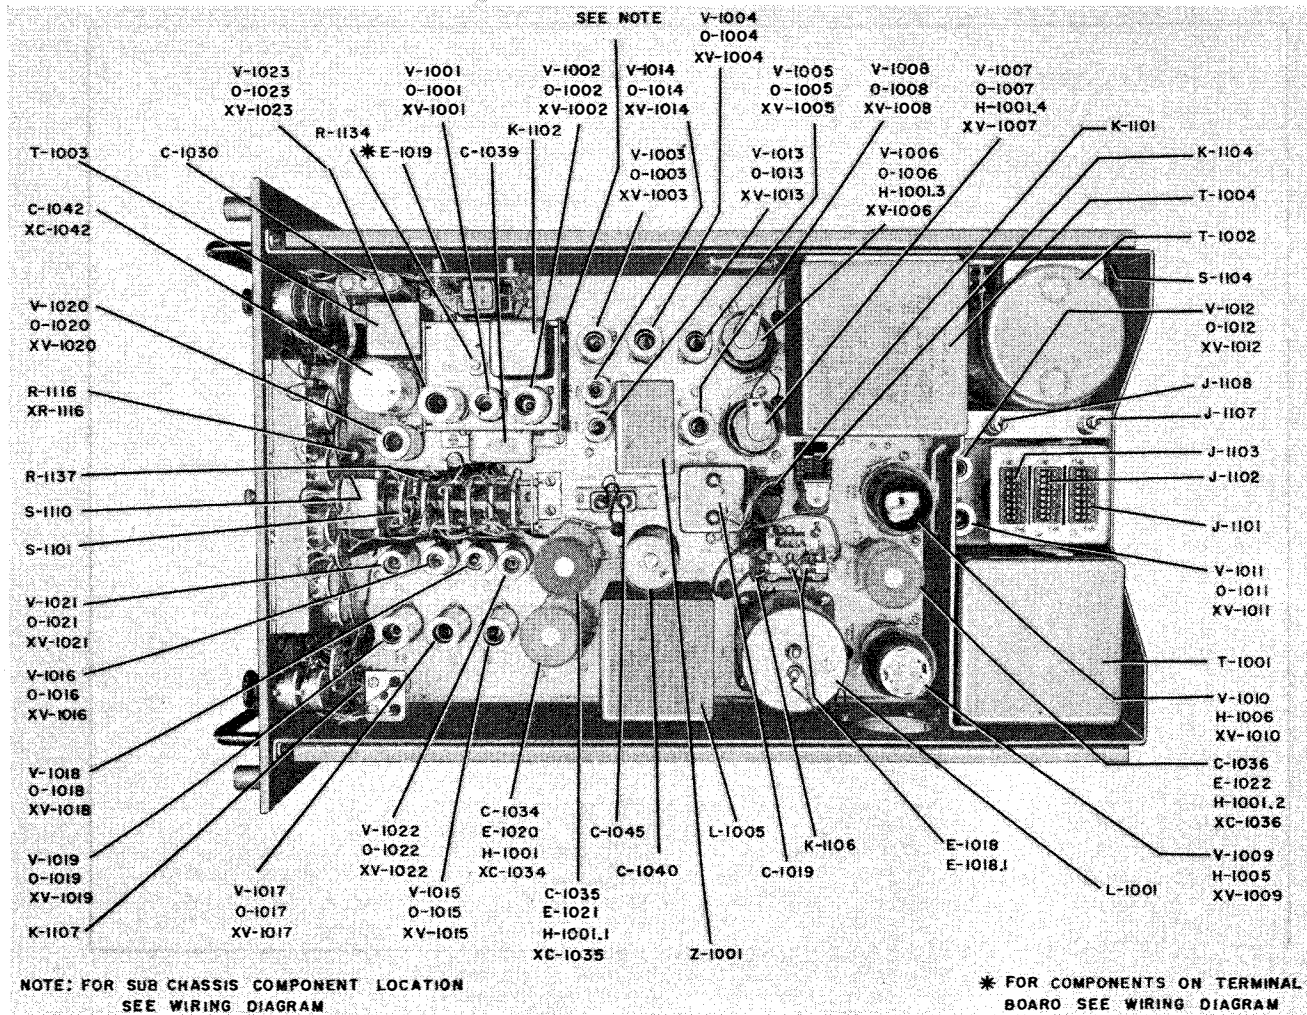
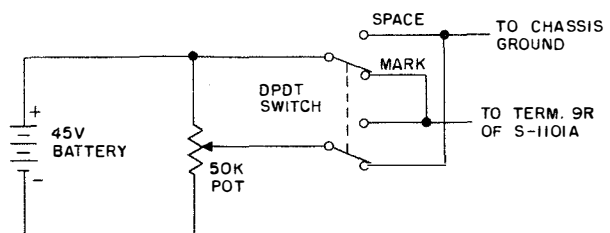

Figure 7-58. Radio Modulator MD-229/SRT (LLRM), Top View
Figure 7-61. LLRM Test Circuit for Simulating Keying Signals
Using oscilloscope OS-8A/U cable W101, connect the vertical input of the oscilloscope to pin 3 of tube V-1004. See figure 7-58.
To readily determine whether the fault is in the last three stages (squelch circuit), use a clip lead and ground pin 2 on V-1013B (see figure 7-58), thus disabling the squelch circuit.
1. NEUTRAL POLAR MARK AND POLAR SPACE CONTROLS.—These controls are unit adjustments and are adjusted by means of an external test circuit, figure 7-61. This test circuit simulates variable voltage source of machine-keying operation. Components required are: a 45-volt battery, a 50 K potentiometer, and a double-pole, double-throw switch wired as illustrated in figure 7-61.
Step 1. Transmitter at 100-watt level, switch (P) at STANDBY; SERVICE SELECTOR switch (U) at MACH; NEUT. POLAR switch (R) at NEUT.; TEST KEY (T) at center position.
Step 2. Connect output of test circuit between terminal 9R of S-1101A and chassis ground. This terminal (9R) has a gray-red wire connected to it. S-1101A is the first switch wafer of the service selector switch (U). See figure 7-58.
Step 1. With the transmitter in stand-by condition set SERVICE SELECTOR switch (U) in HAND position.
Step 2. Remove clipper tube V-1018 (see figure 7-58).
Step 4. Operate TEST KEY (T) to its locked-up position and adjust ZERO ADJ. for a reading of +25 volts on the meter.
Step 5. Return TEST KEY (T) to its normal position and reverse the polarity of the meter. The meter should now read approximately -30 volts ( $\pm 10$  volts).
Step 6. Set SERVICE SELECTOR switch (U) to the MACH. position. The meter should still read as in step 5.
Step 7. Reverse polarity of meter and operate switch (V) to MARK. The meter should now read as in step 4.
Step 1. Transmitter in stand-by, SERVICE SELECTOR switch (U) at FSK.
loscope (OS-8A/U or equivalent) to the white-blue-green wire of the fourth wafer (counting from front to rear) on the SERVICE SELECTOR switch (U) S-1101. (See figure 7-58.)